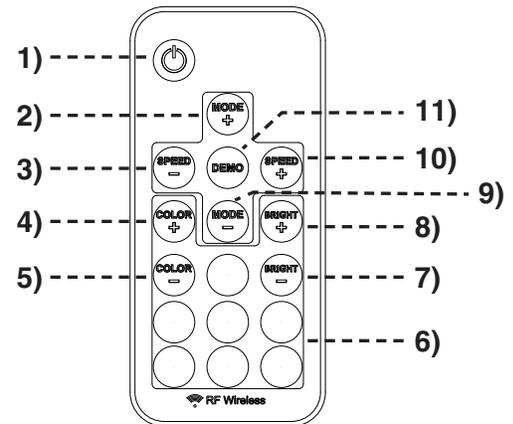
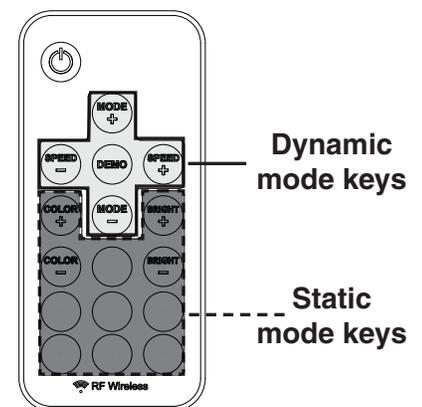

Fig. 9-1 Remote transmitter detail
Fig. 9-2 Remote transmitter modes detail
Prior to remote transmitter use, familiarize yourself with the transmitter keys as illustrated in Fig. 9-1 and Fig. 9-2.
2. Press the **POWER** key on the remote transmitter to turn the light on or off (see Fig. 9-1).
3. Use the remote as desired. Reference the above section and Fig. 9-1 and 9-2.